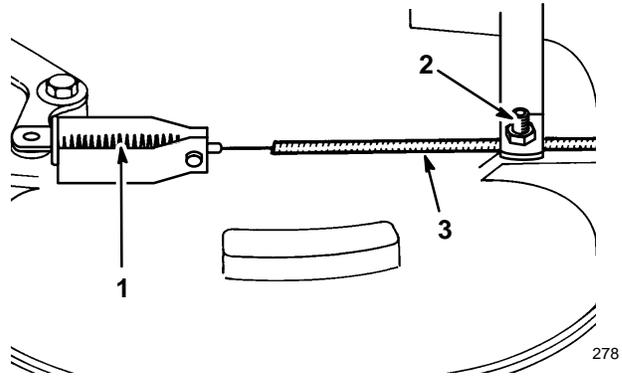

Figure 27
2. Loosen cable clamp screw until brake cable conduit slides (Fig. 27). Pull cable to remove slack, but do not put tension on spring. Tighten screw to lock adjustment in place.